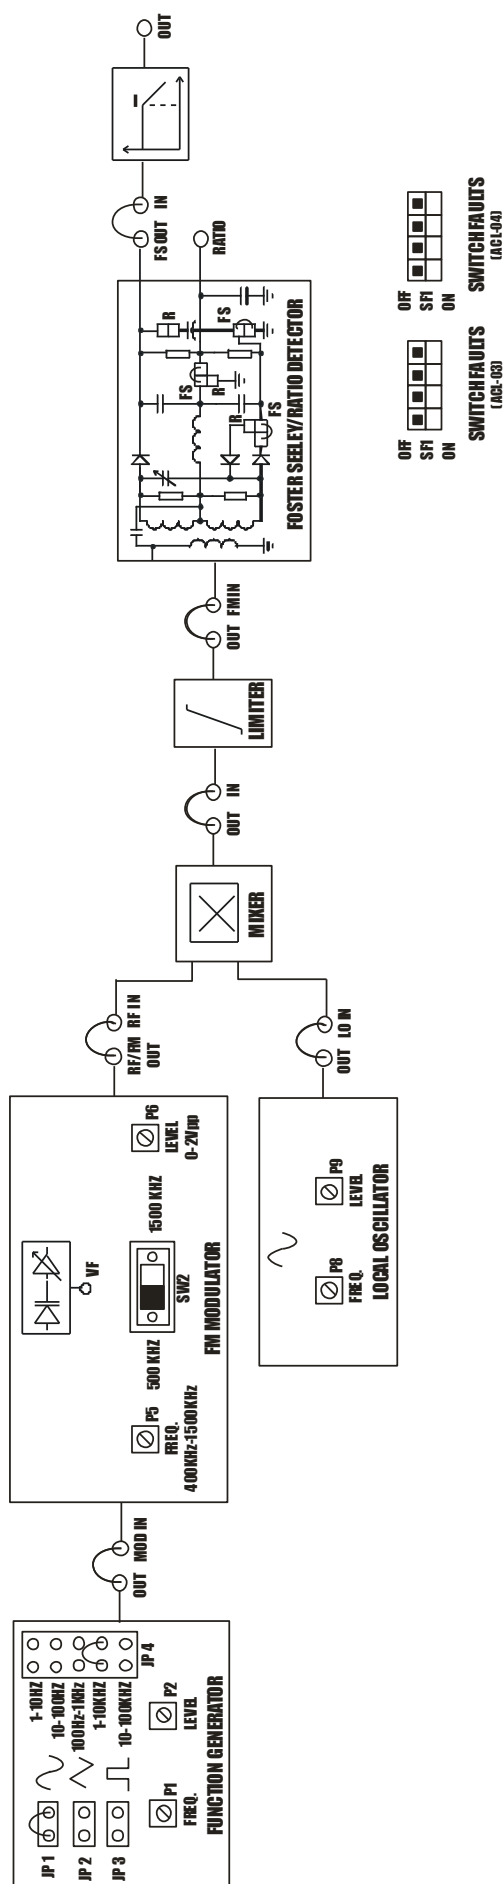

FIG.3.11 BLOCK DIAGRAM FOR FM DEMODULATOR (FOSTER SEELEY)
- Refer to the FIG. 3.11 & Carry out the following connections.